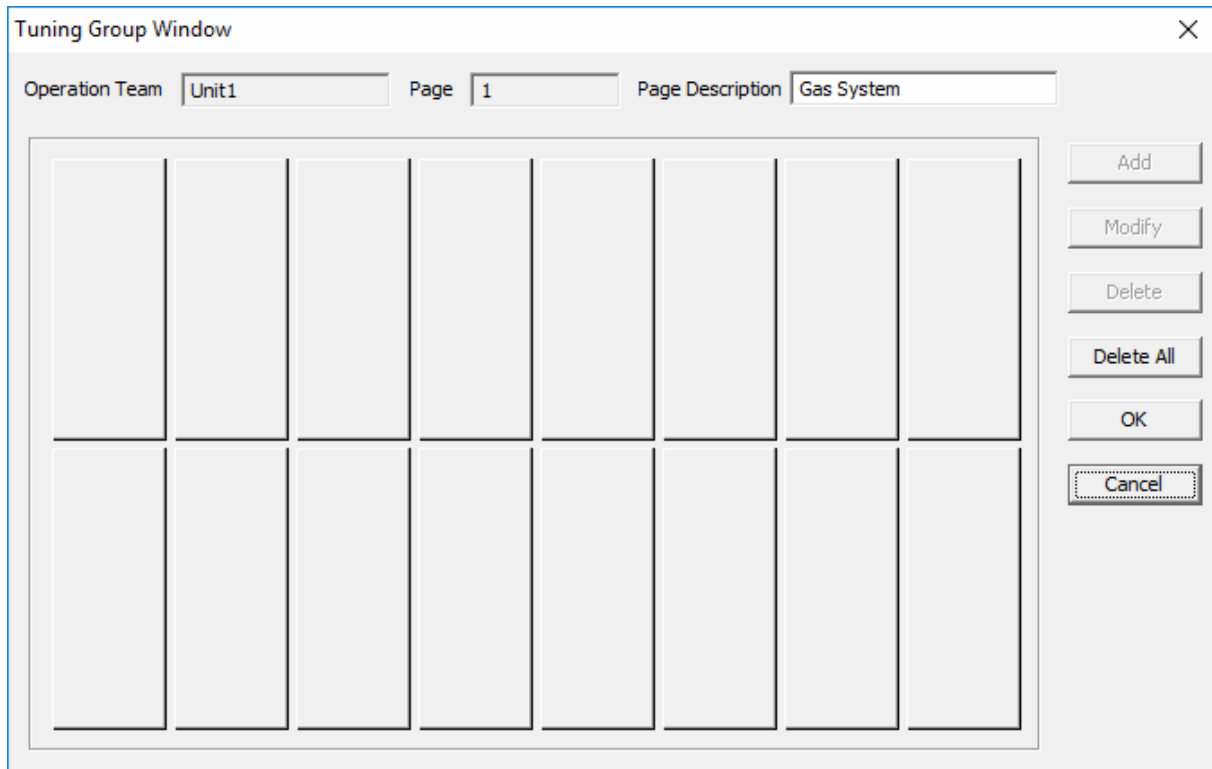

Figure 4-17 Tuning group window setting interface
Double-click “Gas System” at left or click the “Edit” button at right and the pop-up window as shown in the Figure 4-17.
Select “Gas System” and double-click the information display area at right, and the setting of tuning group window will pop-up, as shown in Figure 4-17
- 1) Click an information block in Figure 4-17, and click "Add" (or double-click the information block) to pop up the "Tag Selector".